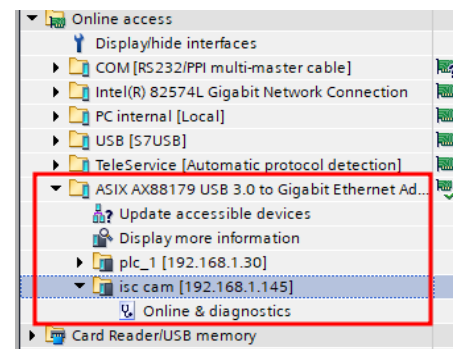

Figure 11: Online Access for Connecting ISC CAM to Project
20. In TIA Portal program open “Online access” find and open the adapter which is connected to ISC CAM. An ISC CAM device with the same IP address shall be listed under that adapter, Figure 11.
21. Open the ISC CAM device in the “Online access” tree. Go to “Online & diagnostics,” Figure 11.